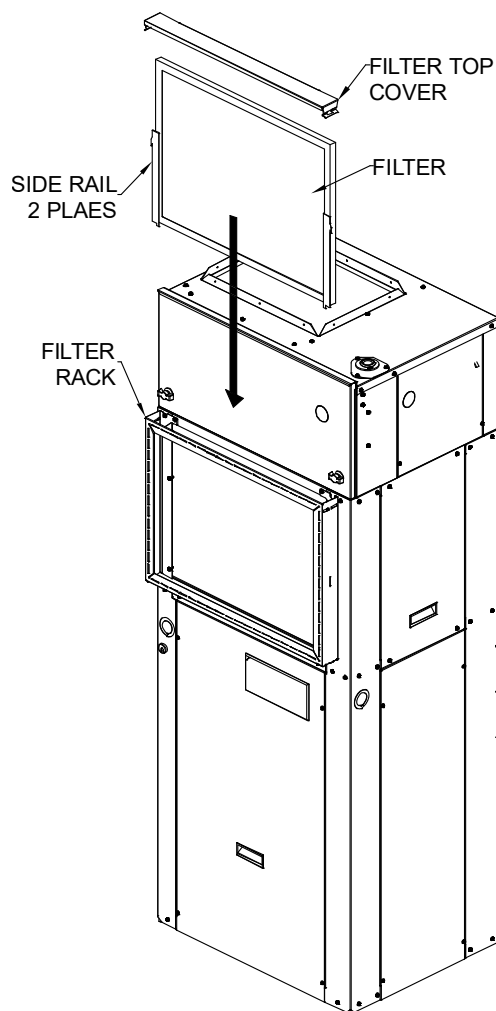

FIGURE 21- Air Filter Location
3. If an air filter is to be applied to the unit remove the top flange on the filter rack to replace filter. (FIGURE 21- Air Filter Location). Place the filter into the filter bracket.